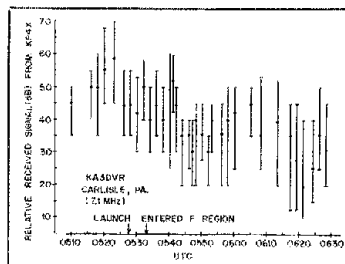

Fig. 2 — Relative signal received from KP4X by KA3DVR on 7.1 MHz in Carlisle, Pennsylvania.
7.1 MHz — With 35 stations reporting with data on this frequency there were a few reports of short fading intervals at or near the rocket launch time. We have taken the log sent by KA3DVR, Carlisle, Pennsylvania, located less than 150 miles north of the optimum ground locus for one-hop signals transmitted from Puerto Rico, and plotted the relative received signal strength versus time to give an illustration of propagation on 7.1 MHz from Puerto Rico to Pennsylvania. Fig. 2 shows the maximum and minimum signal strength readings of KP4X beacon transmissions taken by KA3DVR from approximately 0510 to 0628 UTC on September 20, 1979. Note the normal fading of 15 to 30 dB observed during much of the receiving period, buildup of signal from 0510 to 0525, followed by fairly steady average readings until 0542 and with somewhat lower received average signal strength after 0544. We know from independent measurements of the F region that the hole in ionization was produced fairly soon, at least within a few minutes of the time that the rocket reached the F region maximum at 0535 UTC, so the small drop in signal seen by